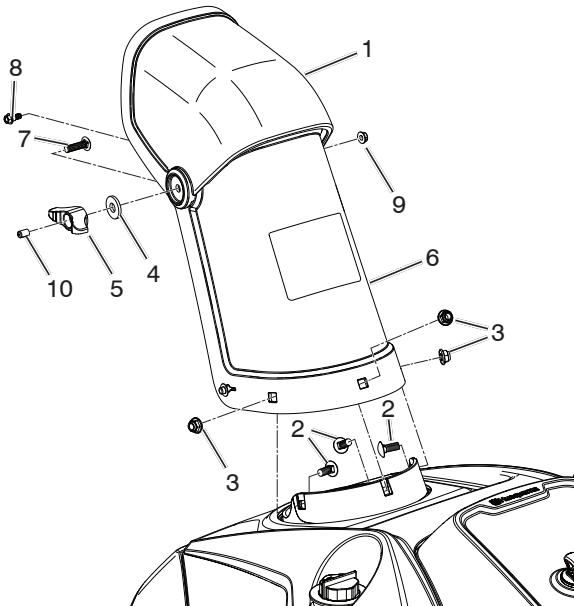

Figure 6
1. Install the chute deflector to the discharge chute using bolts and, washer, nut, deflector knob and cap plunger (Figure 6).